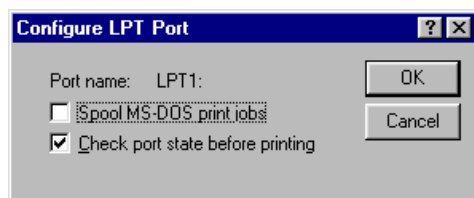

Figure 1. Unchecking *Spool MS-DOS Print Jobs* will give you faster Q&A printing for all but the largest print jobs.
6. Uncheck *Spool MS-DOS Print Jobs* (see Figure 1) then Click OK.